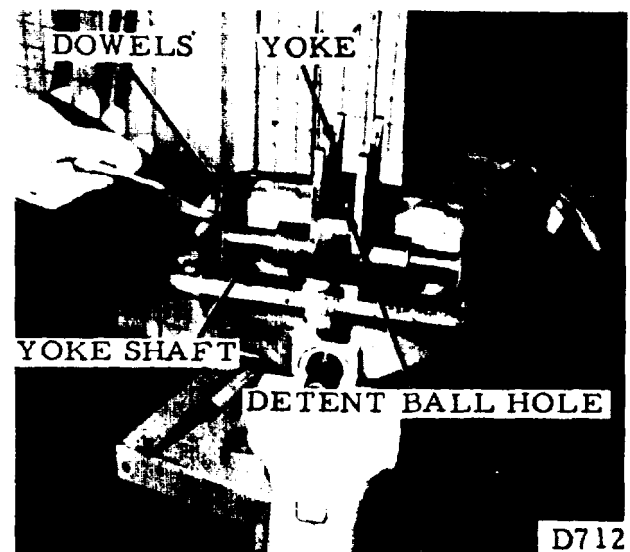

FIGURE 7-56.
(1). Clamp the tower in a vise equipped with soft jaws. Extract the roll pins (see figure 7-56).